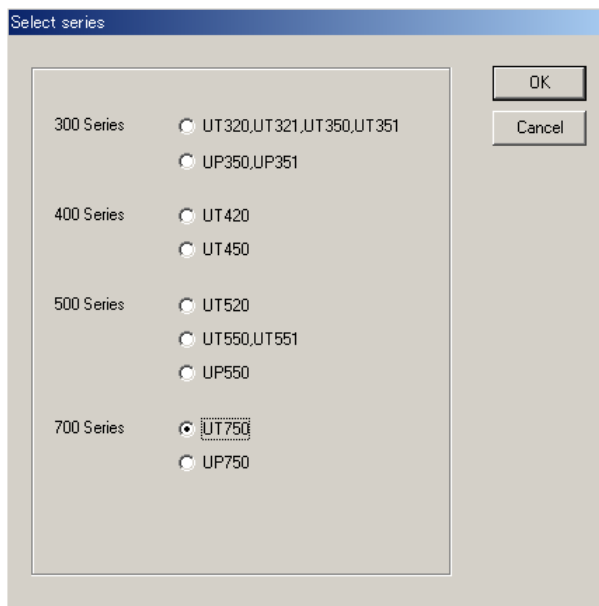

Figure 10.1.2 [Select series] Dialog Box
- (1) From the tool menus, click <Custom Computation>, then <Start Parameters Setting Tool>. The [Select series] dialog box (Figure 10.1.2) appears.